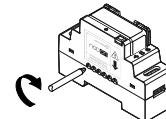

figure 2
④ Screw the 6 screws of the relay switch to fix both elements together (see figure 2).
⑤ To facilitate the connection, unscrew the 6 screws of the DIN Rail Box terminals.
⑥ Install the box with the relay switch on the DIN Rail Box of the electrical panel.